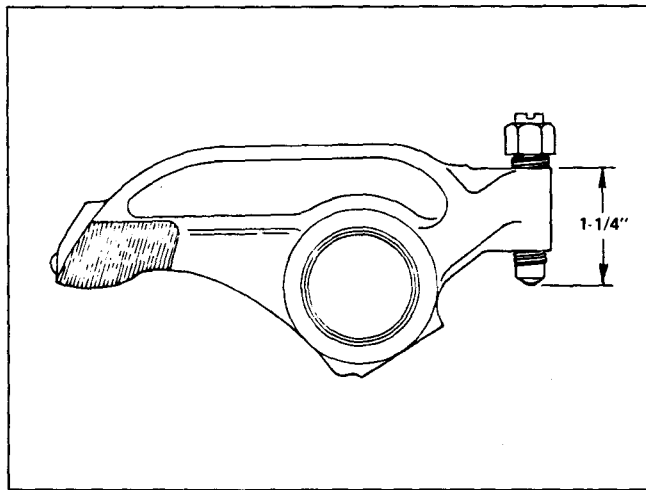

Fig. 14-52, (N114). Rocker lever adjusting screw position
2. Loosen locknuts and back off rocker lever adjusting screws so that there is a maximum of 1-1/4 inch [31.8 mm] between the machined surface at the top of the rocker lever and the top of the ball on the adjusting screw. See Fig. 14-52.